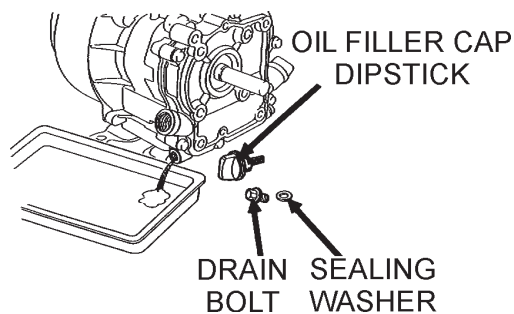

Figure 22. Engine Oil (Draining)
2. Drain the engine oil when the oil is **warm** as shown in Figure 22.